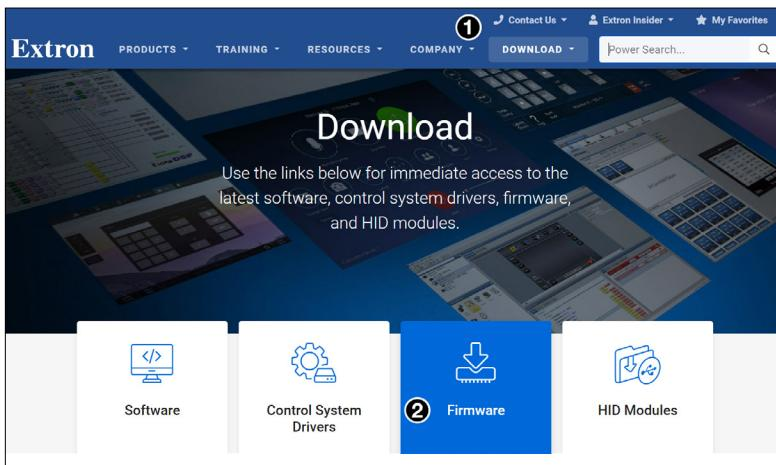

Figure 18. Firmware Download Center
2. Go to www.extron.com, click DOWNLOAD (see figure 18, ①) and then click Firmware (②).